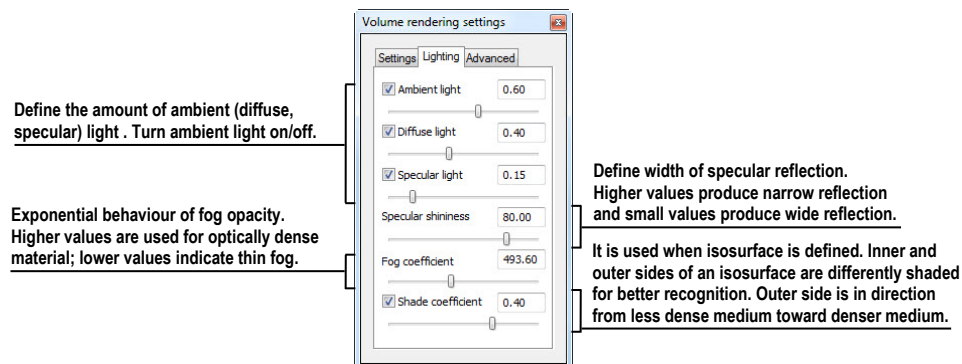

Figure 227 – Volume rendering settings, the second tab
- lighting settings used in volume rendering in the second tab (see Figure 227)